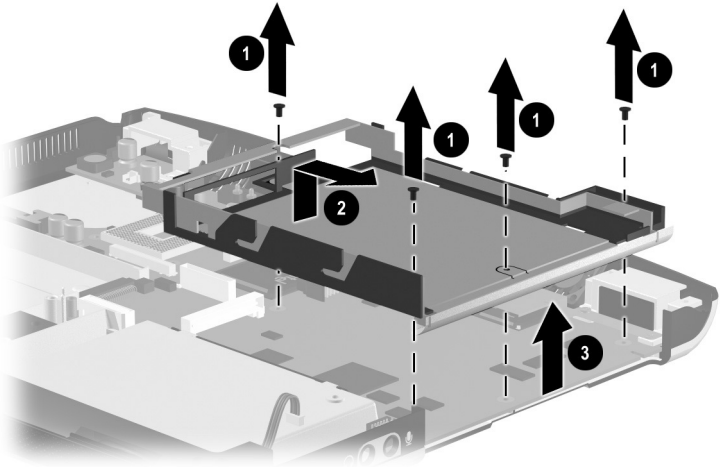

Figure 5-29. Removing the Keyboard Support Plate
2. Remove the four PM2.0 × 4.5 screws ❶ that secure the keyboard support plate to the base enclosure (Figure 5-29).
3. Lift the left side of the plate and slide the plate to the right ❷ until it clears the base enclosure, then lift the plate straight up ❸ and remove it from the base enclosure.